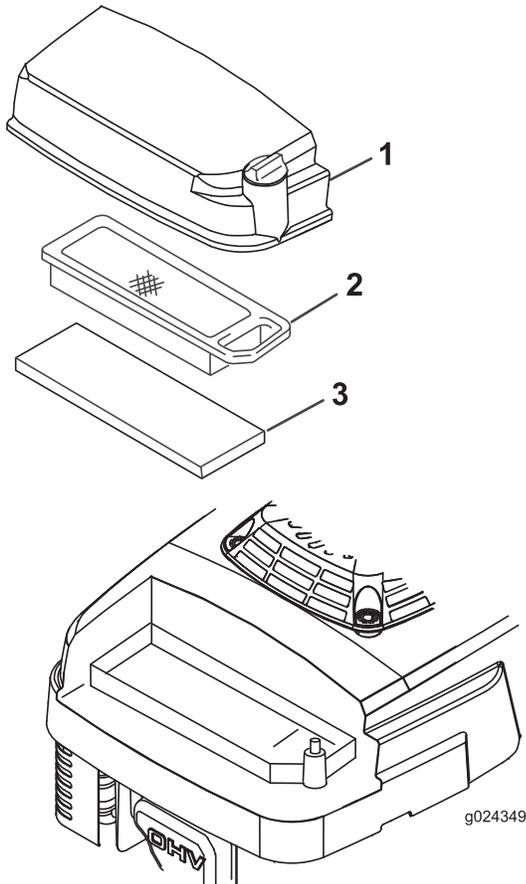

Figure 19
3. Loosen the screw on the air-cleaner cover (Figure 19).
5. Remove and inspect the paper air filter (Figure 19), and replace it if it is excessively dirty.
6. Remove the foam pre-cleaner (Figure 19) and wash it with a mild detergent and water, then blot it dry.